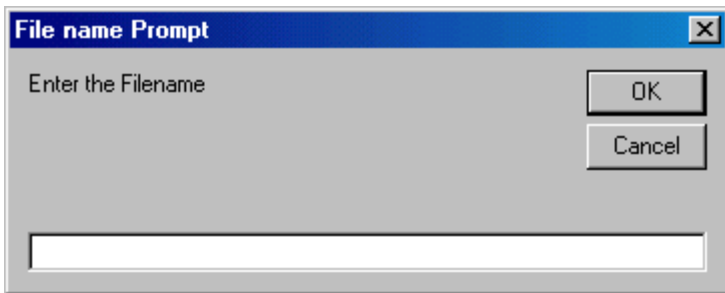

Figure 8. File Name Prompt
1. Click the **Start** button on the *Main Menu*. The software requests a file name as shown in Figure 8.
1. Click the **Upload** button. The software requests a file name as shown in Figure 8.